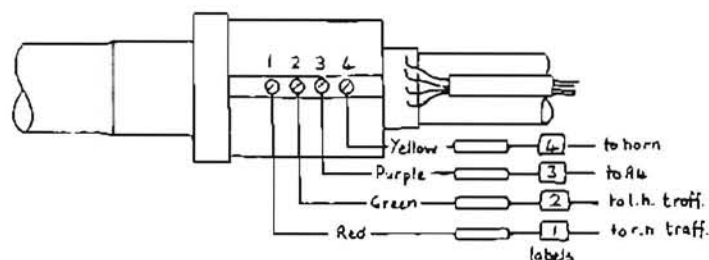

Figure 1 — Slipring unit connections
**TEST 2** Switch on ignition. Connect test lead between terminals 1 and 3 on the slipring unit on the steering column. (No. 1 terminal is the one nearest the steering wheel — see fig. 1. You need not disconnect the wires to the slipring unit).
**TEST 3** If the AUX IGN fuse between terminals A3 and A4 on the regulator (YA) or fuse box (YB) blows when a trafficator is switched on, there is a short to earth between the A4 terminal and the trafficator. A few inches from the slipring unit are four snap connectors. Label these 1, 2, 3 and 4 as shown in fig. 1 using self-adhesive labels. Disconnect the wires either at the snap connectors or slipring unit and repeat test 2 (1 and 3, 2 and 3) but this time connecting the test lead to the wires you have just labelled. If the trafficators work with the ignition switched on and the fuse doesn't now blow, then the short is in the steering column wiring or at the steering wheel switch. If the fuse blows for both 1 and 3 connected and 2 and 3 connected in turn (expensive on fuses, this!), look for an earth short between the regulator and slip ring unit. The short is between the wire labelled 1 and the r.h. trafficator if the fuse only blows when 1 and 3 are connected, or between wire 2 and the l.h. trafficator if the fuse only blows with 2 and 3 connected. When the fault has been found and repaired, reconnect the wires.